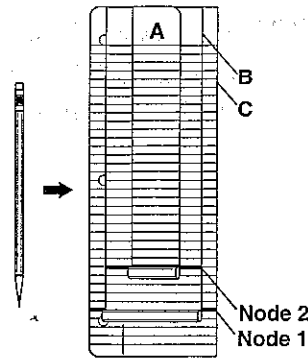

Figure 6.7e
Step 2: Take the folded leaf B and center its base on node 1. Take the folded leaf A and center its base on node 2. The three leaves should now be stacked (Figure 6.7e).